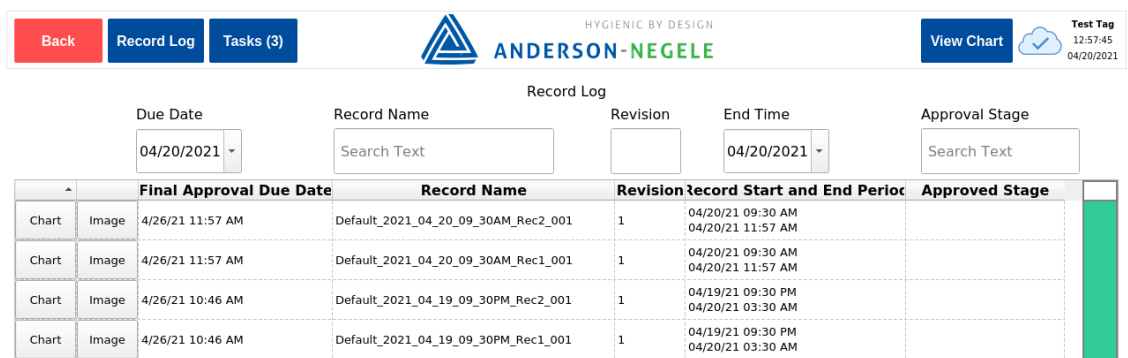

Figure 60: Reviewing Records
2. On the Right side of the Record Log view the Approved Stage column. Shown in Figure 60 below, without any approvals present.
2. On the Right side of the Record Log view the Approved Stage column. Shown in Figure 60 above, without any approvals present.